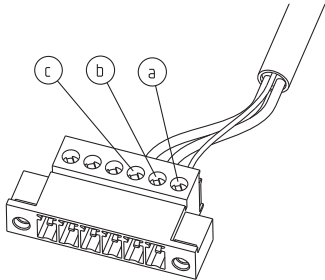

Fig. 3: Terminal Block
- 10/11/12 a - Ethernet cable (7)
- 10/11/12 b - EARTH cable (8)
- 10/11/12 c - DC supply cable (4)
- 7 Connect the power supply cables into the terminal block (6) supplied as shown in Fig. 3.